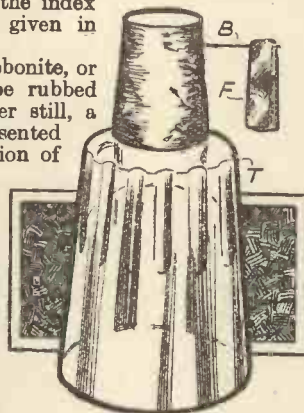

Fig. 2.—Another type of electroscope.
Fig. 2.—Side elevation of micro-polariscope. The materials required are (A) 1 baseboard,  $9 \times 2\frac{1}{4}$  in. of  $\frac{1}{2}$ -in. wood. (B) 2 adjustment rails, each  $7\frac{1}{2}$  in. of brass rail. (C) 6 brass rail clamps for locking and adjusting. (D) 3 squares  $\frac{3}{8}$ -in. plywood with 1-in. diameter hole, as shown. (E) 1 rectangle similar to (D), but  $2 \times 2\frac{1}{2}$  in., and fixed to M. (F)  $\frac{1}{2}$  polariser in mounting tube as described. (J) 1 analyser in tube as described. (K) 1 magnifying lens as described. (L) 2 spring clips to grip specimen slides. (M) 1 strip wood,  $2\frac{1}{2} \times \frac{1}{2} \times \frac{1}{2}$  in. to support (E).
The apparatus shown at Fig. 2 is pretty well self-explanatory. The tubes F and J are the tube mounted "prisms" we have just discussed, and are carried in blocks of wood, 2 in. square by  $\frac{3}{8}$  in. thick in the case of the analyser (J), and  $2 \times 2\frac{1}{2} \times \frac{3}{8}$  in. thick in the case of the polariser (F). The other two blocks, pictured between these two, are each  $2 \times 2 \times \frac{3}{8}$  in. thick, and constitute (D3) a block with 1 in. hole through which the light passes from F to the object under examination, which is held in place over this aperture by the two clips (L); and D2, a precisely similar block, but in this case the aperture has an ordinary magnifying lens inserted in the aperture and kept in place by putty, plastic-wood, or clip rings, as may be most convenient.
A modification of the electroscope is presented in Fig. 2. From an inspection of the figure it will be seen that a needle B pushed into the side of the cork has hung from it a folded strip of paper or foil F. Obviously, any other light material, such as pith, feathers, wool, etc., may be suspended from the needle